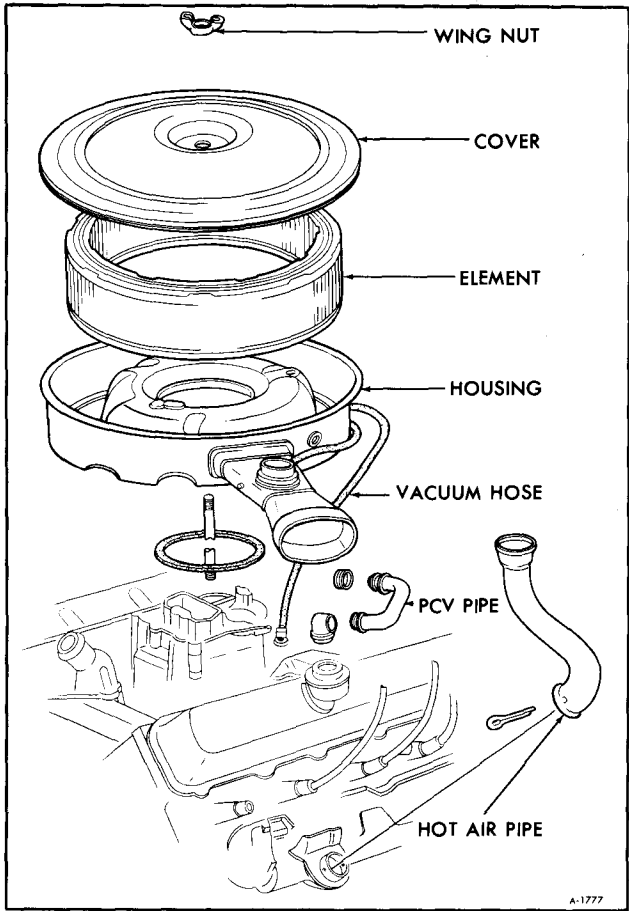

Figure 33-Air Cleaner
3. Disconnect P.C.V. pipe from the air cleaner housing. See Figure 33.
4. Lift air cleaner housing off carburetor high enough to reach underneath it and disconnect the vacuum hose from the intake manifold. See Figure 33.